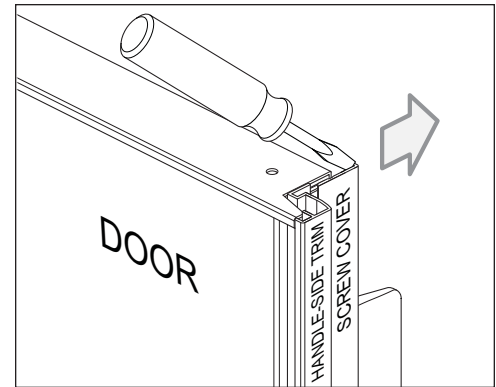

Figure 1. Screw Cover Removal
1. At the top of the door, insert a flat blade screwdriver into the channel of the screw cover and push the cover away from the handle-side trim, disengaging it from the trim (See Figure 1).